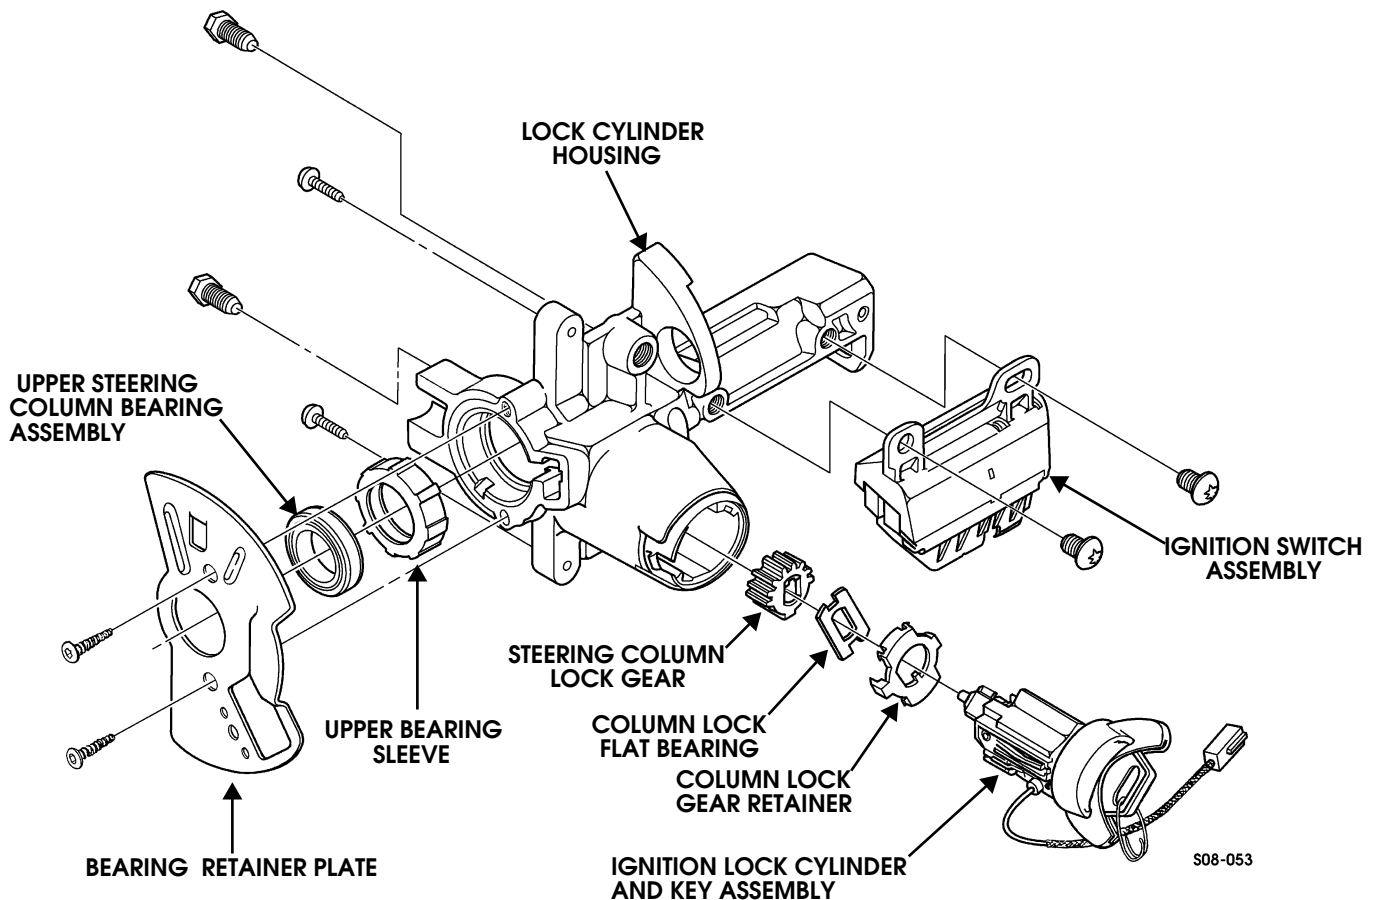

Figure 8-14: Lock and Switch Housing Components
1. Remove the lock cylinder and key assembly from the lock cylinder housing (Figure 8-14).
4. Remove two screws securing the ignition switch assembly to the lock cylinder housing. Remove the ignition switch assembly (Figure 8-14).
4. Secure the ignition switch assembly to the lock cylinder housing with two screws. Tighten screws to 35-40 lb-in. (3.9-4.5 N•m) (Figure 8-14).
6. Install the upper bearing assembly and upper bearing sleeve in the lock cylinder housing (Figure 8-14).